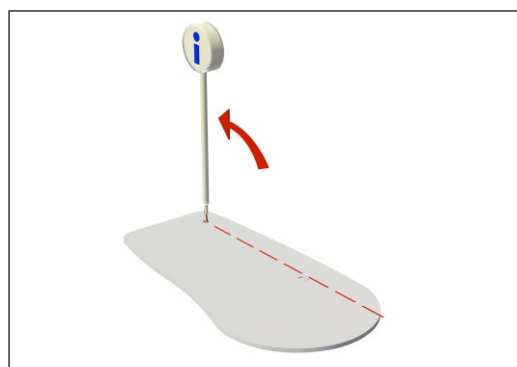

Fig. 26
1. After unwrapping, raise the pole to a vertical position over the hole and feed the surplus cable back up into the pole. The round sign head should be aligned to the desktop centreline. (Fig. 26).